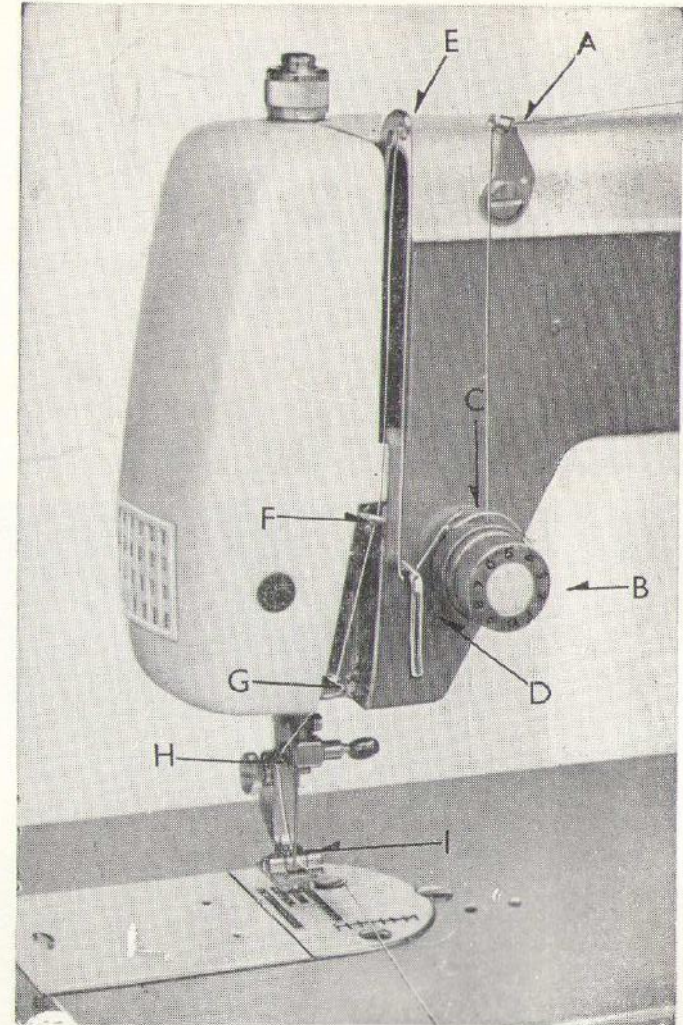

Fig. 12
- 3) Lead the thread over and through the arm thread-guide (A). (Fig. 12).
- 4) Pull down to the tension disc (B) and between them from right to left, and up.
- 5) Hook the check spring (C) and retaining bar (D).
- 6) Pull up into the eyelet of thread take-up lever (E) from right to left.
- 7) Draw down through, wire guides of thread protector (F) and (G) needle clamp thread guide (H).
- 8) Thread the needle from left to right (I) and hang free about 3 inches of thread.